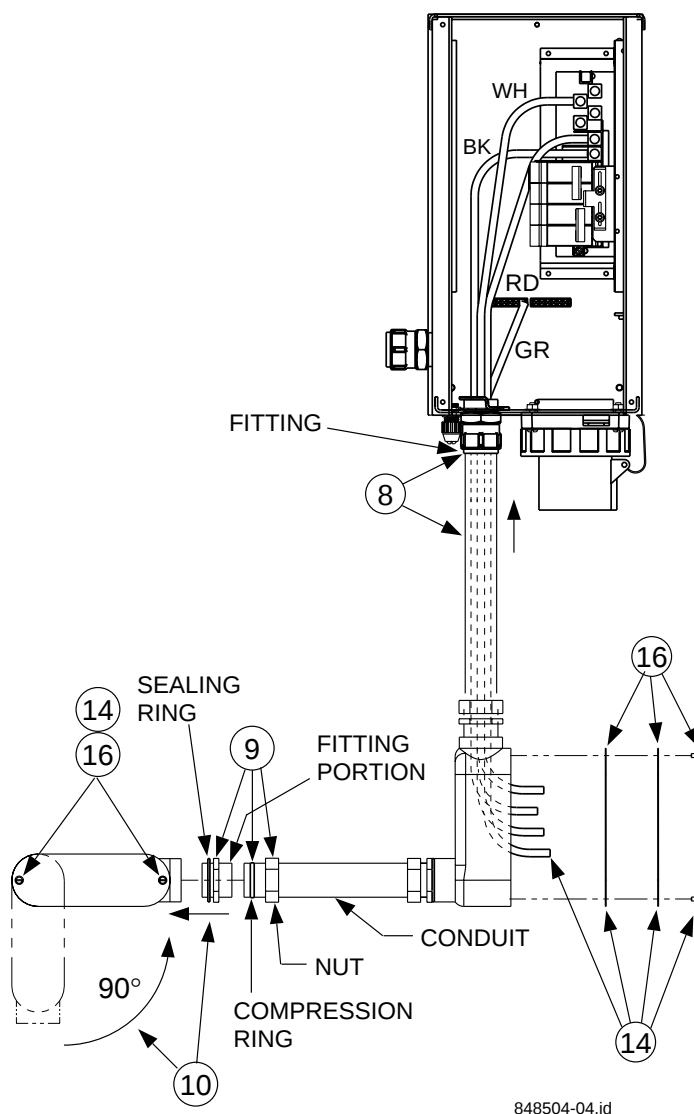
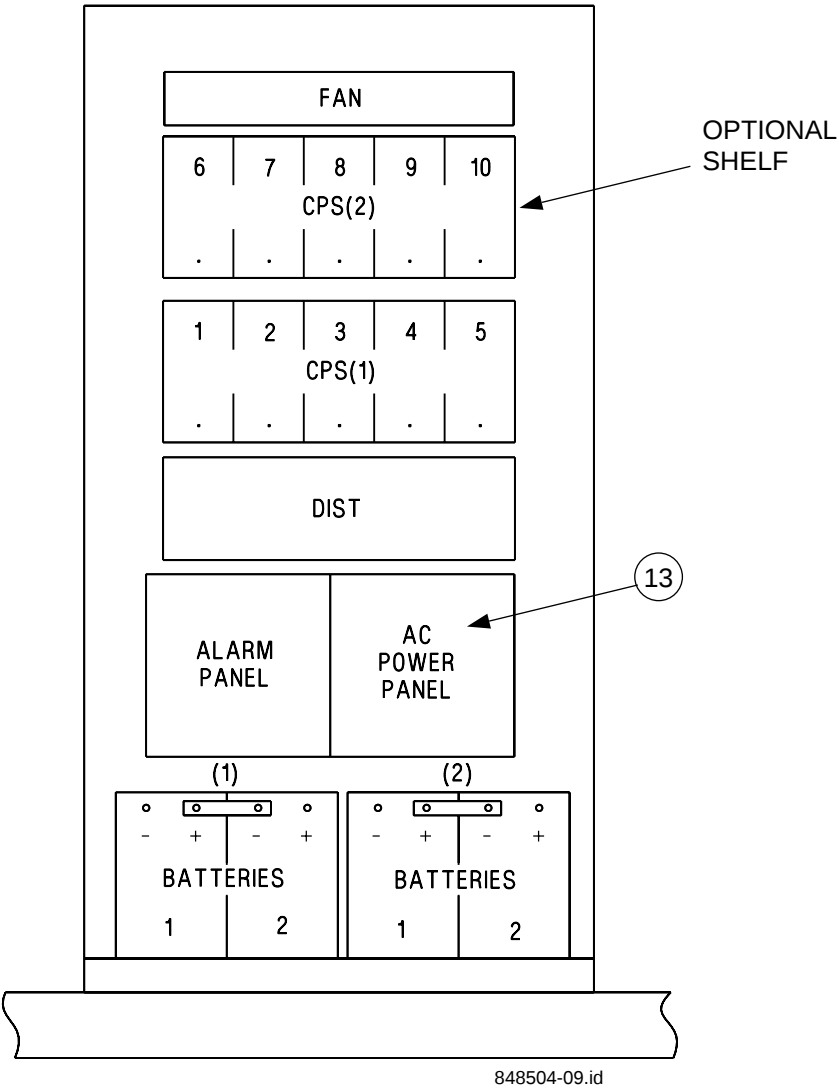
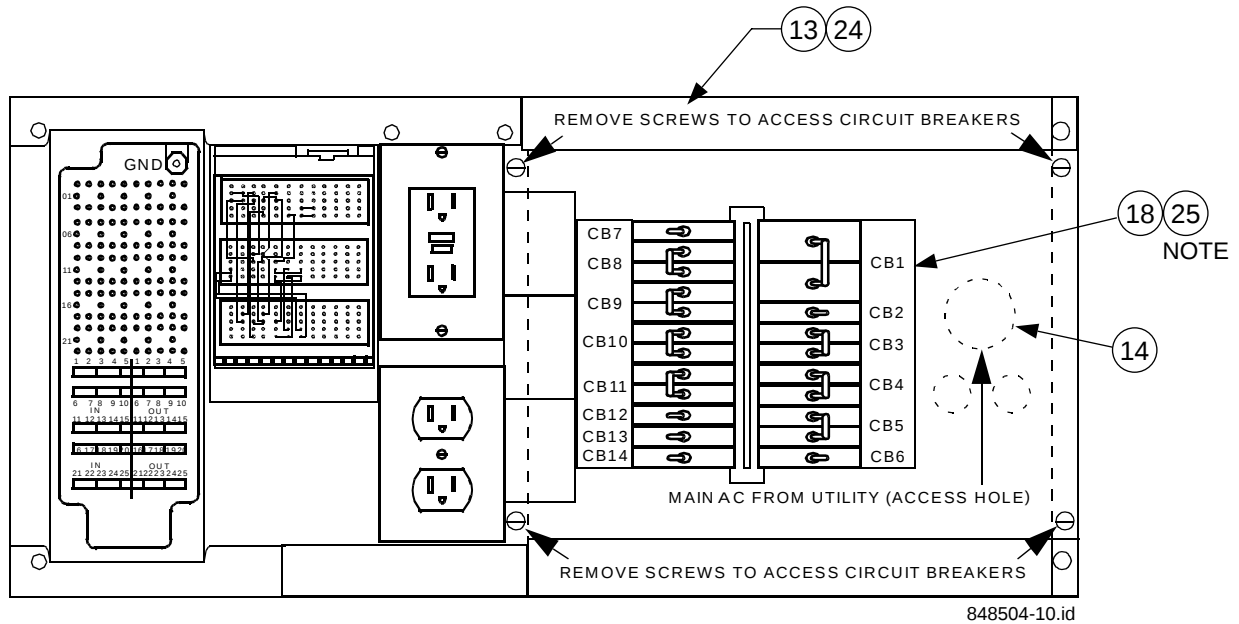
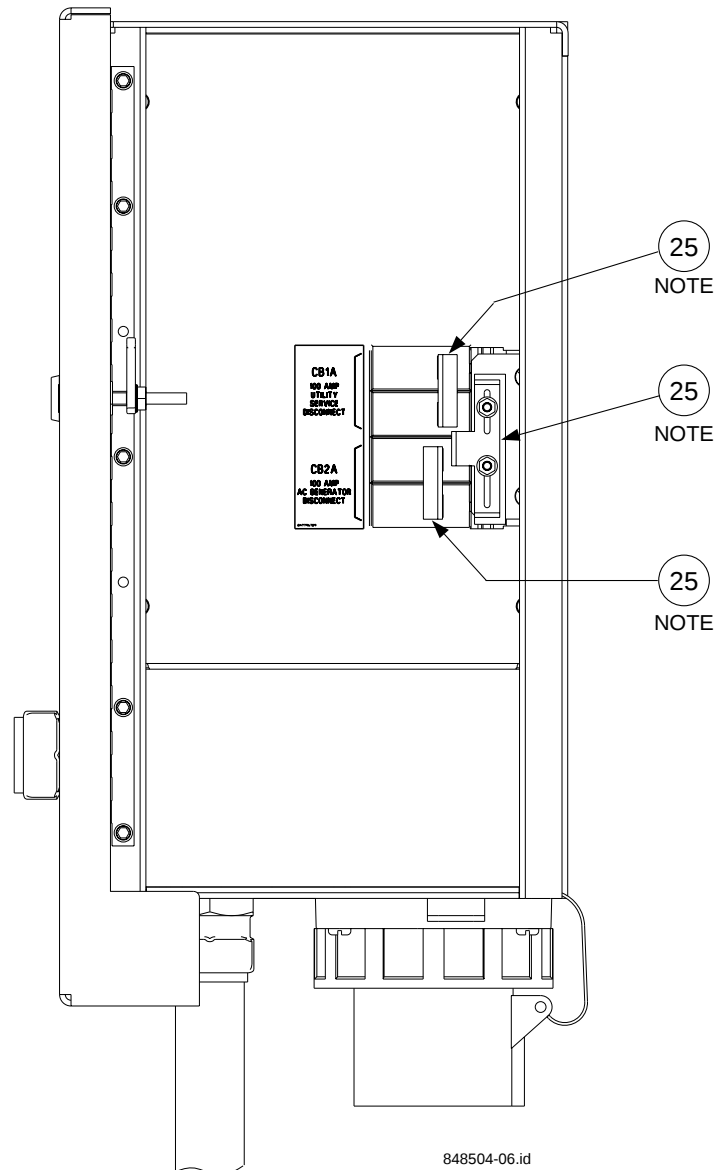

Figure 5. Conduit Installation and Routing of AC Wiring
Figure 6. Location of AC Power Panel Inside of Power Cabinet
Figure 7. Access to AC Power Panel Circuit Breaker Wiring
Figure 10. CB1A and CB2A Locations
STEP 8— Loosen, but **DO NOT REMOVE**, the compression fitting located in the bottom of the AC Generator Receptacle Assembly (Figure 5). Locate the conduit assembly, Item 7, and push the long piece of conduit up through the compression fitting located in the bottom of the AC Generator Receptacle Assembly. Hand-tighten the fitting, but **DO NOT TIGHTEN WITH TOOL AT THIS TIME**.
- STEP 9—** Loosen compression fitting nut located on the end of the shorter piece of conduit and remove the fitting portion keeping the sealing ring in place and ensure the nut and compression ring remain on the conduit (Figure 5).
- STEP 10—** Swing the Power Cabinet AC pull box up 90° into the horizontal position as shown in Figure 5 and attach the fitting removed in Step 9 to the end of the Power Cabinet AC pull box. Ensure the sealing ring is in place between the fitting and the AC pull box.
- STEP 13—** Open the front door of the Power Cabinet with the tool provided and locate the AC Power Panel in the lower right corner of the cabinet (Figure 6). Remove the four cover screws to access the wiring and circuit breakers (Figure 7).
- STEP 14—** Remove both AC pull box covers and gaskets (Figure 5). Locate the AC wires coiled up inside the AC Generator Receptacle Assembly. There should be three No. 2 AWG wires (white, red, black) and one No. 6 wire (green). Feed the AC wires through the bottom of the assembly one at a time and out through the AC pull box located on the conduit assembly (Figure 5). Feed the AC wires through the shorter conduit, one at a time, and into the Power Cabinet. Route these wires to the front of the Power Cabinet over to the AC Power Panel located in the bottom front of the Power Cabinet (Figures 6 and 7).
- STEP 16—** Replace both of the AC Pull Box covers and gaskets and secure with the screws removed in Step 14 (refer to Figure 5).
STEP 18— Ensure the Main Circuit Breaker, CB1, on the AC power panel inside the power cabinet is in the OFF position (Figure 7).
STEP 24— Replace the AC Power Panel Cover with the screws removed in Step 13 (Figure 7).
Note: If the system is to be powered-up at this time, ensure that the Interlock Mechanism is secured in the lowest position, CB1A is in the ON position, CB2A is in the OFF position (Figure 10), and CB1 of the AC Power Panel is in the ON Position (Figure 7).
STEP 2— Open the front door of the Power Cabinet with the tool provided in the kit and turn off the main breaker, CB1, located in the AC Power Panel at the bottom of the Power Cabinet (refer to Figures 6 and 7).
STEP 3— Open the front cover of the AC Power Panel by removing the four cover screws to access the wiring and circuit breakers (Figure 7).